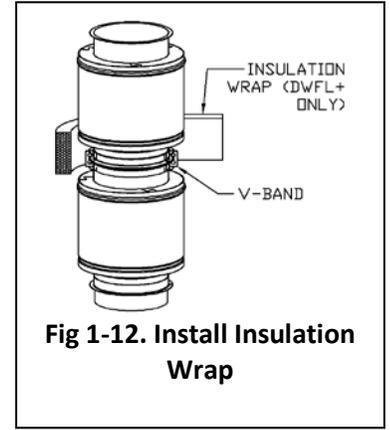
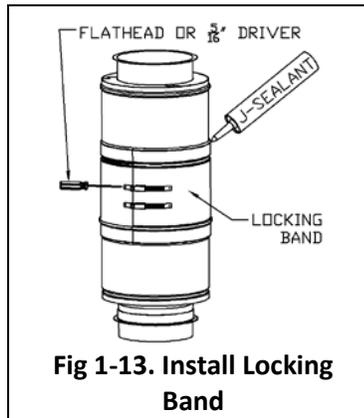

Fig 1-12. Install Insulation Wrap
Fig 1-13. Install Locking Band
6. Position the V-Band around the joint, capturing the flanges in the groove of the V-Band (See Fig 1-12)
8. Wrap the joint with insulation (provided) (See Fig 1-12)
9. Position the Locking Band (LB) around the outer pipe (DW-NAKS Only)
11. For exterior installations, apply Dow 732 (grey) sealant around the circumference of the locking band seam (See Fig 1-13.)